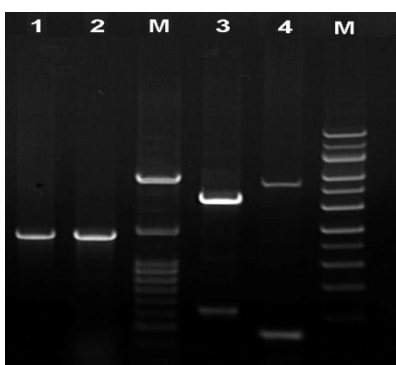

Fig.5. PCR inserts for Fast-Fusion™ cloning.
**3. PCR amplification and purification:** Taq and other high fidelity DNA polymerases are all suitable for generating DNA fragments for Fast-Fusion™ cloning. After PCR, analyze PCR products by electrophoresis on an agarose/EtBr gel. The QP reagent can be used when only a single band is present (Fig.5). Gel purification is strongly recommended when nonspecific amplification is evident. Quantify the purified fragments by measuring against a known DNA standard running in parallel.